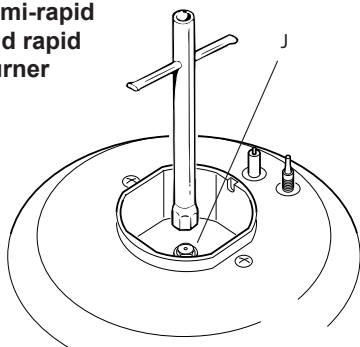

Fig. 5.3a
- Using a wrench, substitute the injectors “J” (figs. 5.3a, 5.3b, 5.3c, 5.3d) with those most suitable for the kind of gas for which it is to be used.